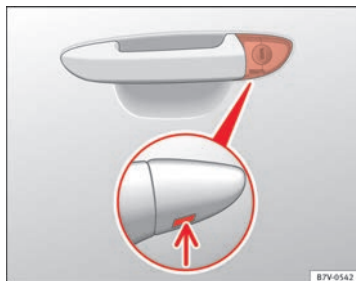

Fig. 52 Driver door lever:
- Insert the key shaft into the opening in the cover on the driver door handle from below ⇒ Fig. 52 (arrow) then remove the cover upwards.